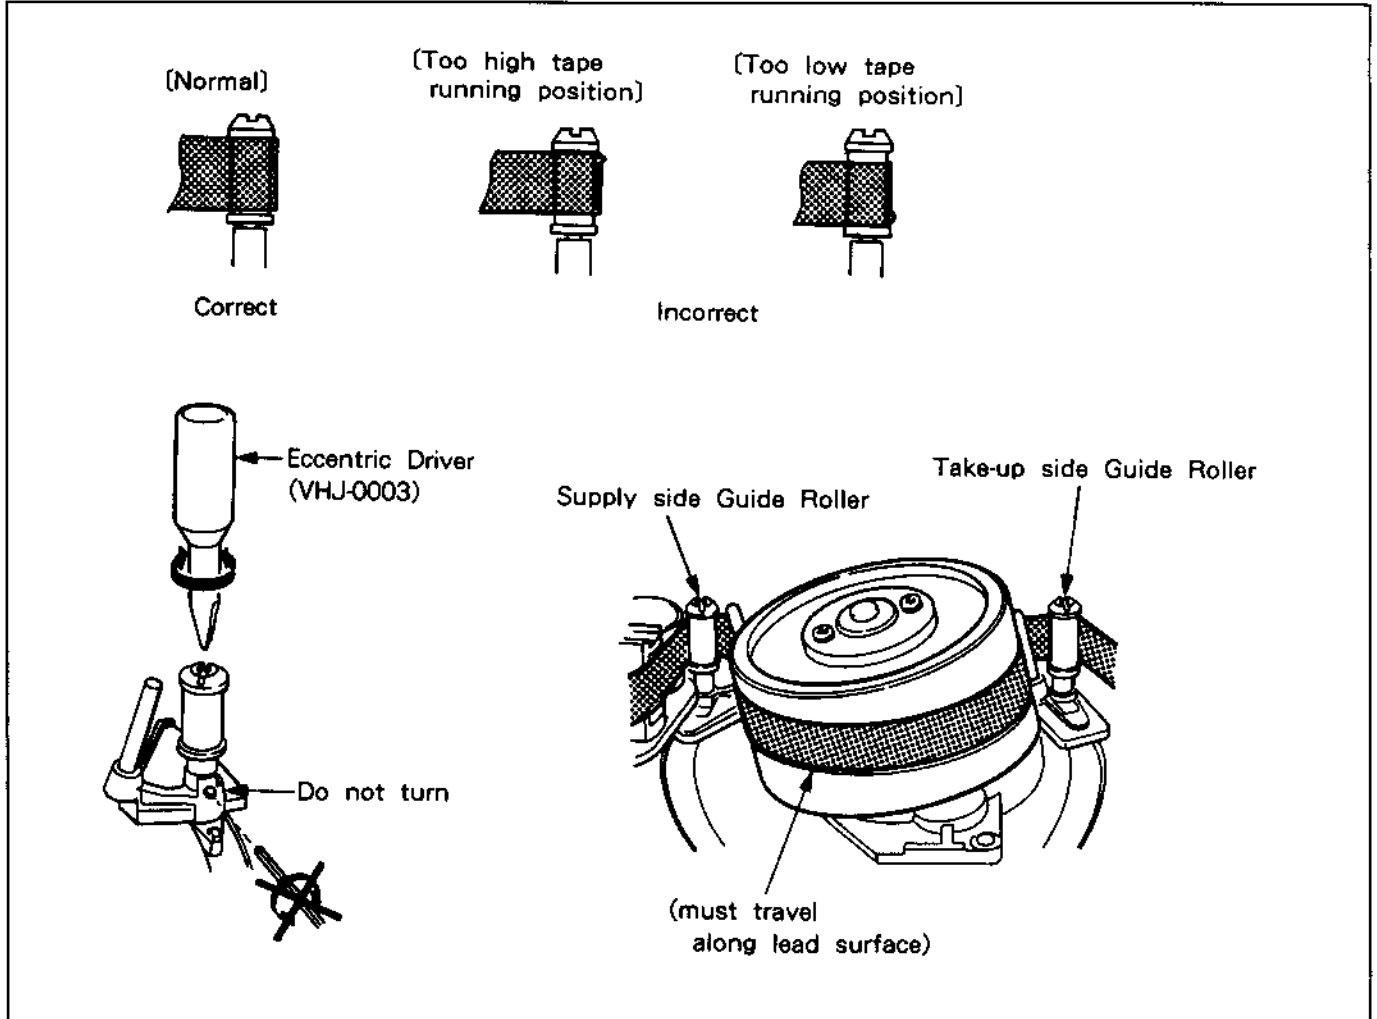

Fig. 5-4-2. (1) Pre-set for Guide Roller
(1) Guide Rollers (See Fig. 5-4-2.)